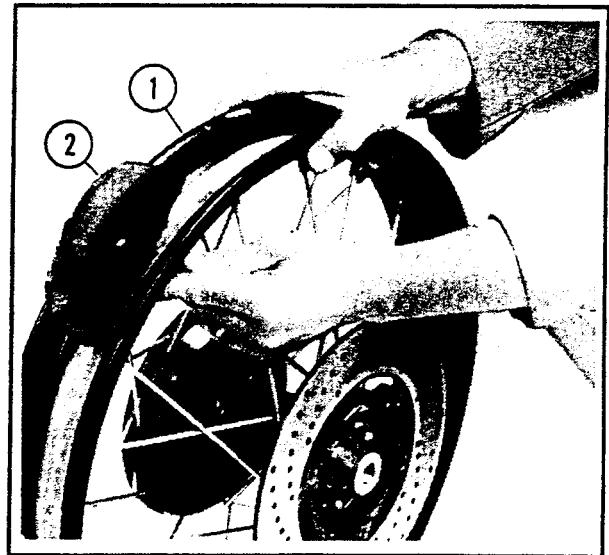

Figure 5-71. Removing Bead Lock
13. See Figure 5-71. Remove bead lock (1) from wheel rim (2).